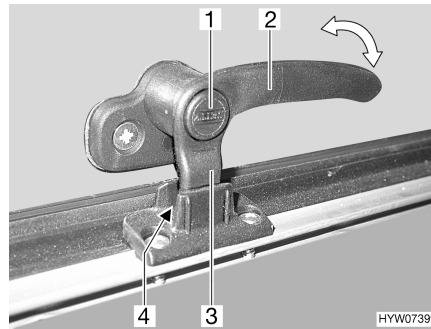

Fig. 22 Catch lever in the "continuous ventilation" position
- "Continuous ventilation" (Fig. 22)
- Press the safety knob (Fig. 22,1) and keep it pressed.
- Turn the catch lever (Fig. 22,3) a quarter turn towards the centre of the window.
- Return the catch lever to its initial position. Move the locking catch (Fig. 22,3) on the catch lever into the recess of the window catch (Fig. 22,4).
- Release the safety knob (Fig. 22,1).